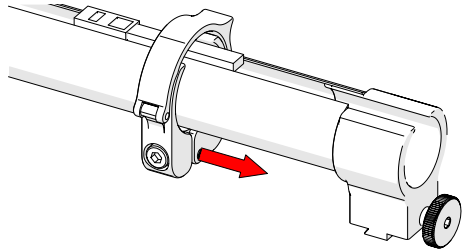

Fig. 74 - Slide clamp onto mount
3. Slide the clamp over the tube and cable management dovetail mount, pinching the tube in between (*Fig. 74*).